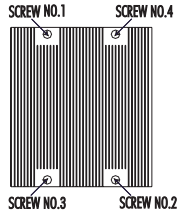

Figure 5-8: Installing the Heatsink
1. Unscrew and remove the heatsink screws from the motherboard in the sequence shown on the right of figure 5-8 above.